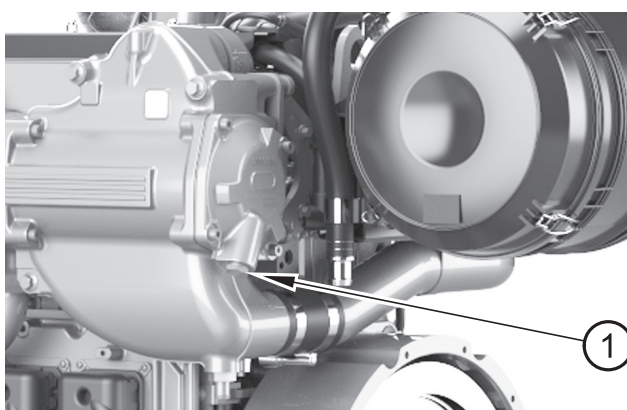

Figure 7
2. Remove the drain plug (figure 7 item 1), from the aftercooler. Ensure that the drain hole is not restricted.